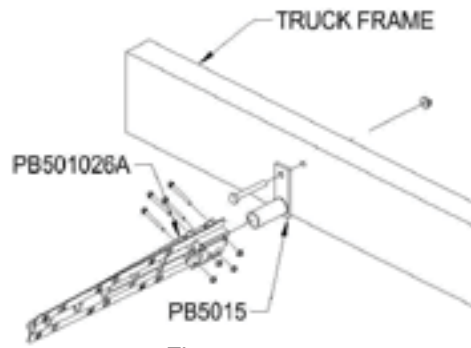

Figure 9
- A. Once the brackets are placed in position with the fender, securely tighten down the 5/8" x 4-1/2" bolts that go through the PB5015 steel swivel attaching the swivel to the frame. See Figure 9.